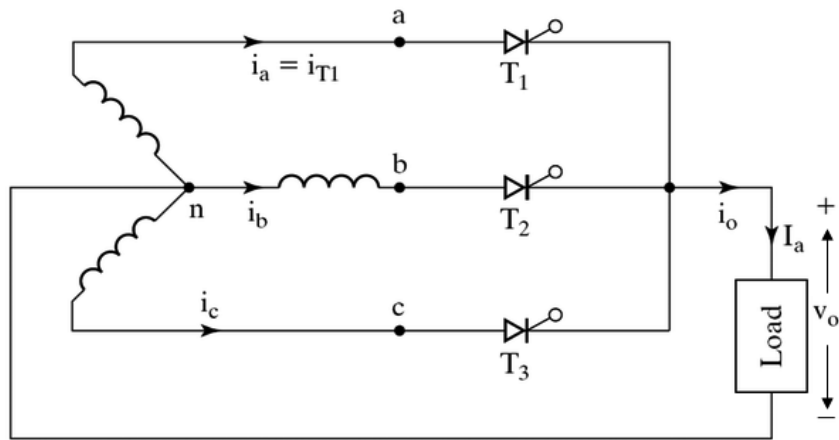

Fig. 8.1 Three-phase Half wave controlled rectifier circuit
1. Make the circuit connection as per the circuit diagram shown in Fig 8.1.